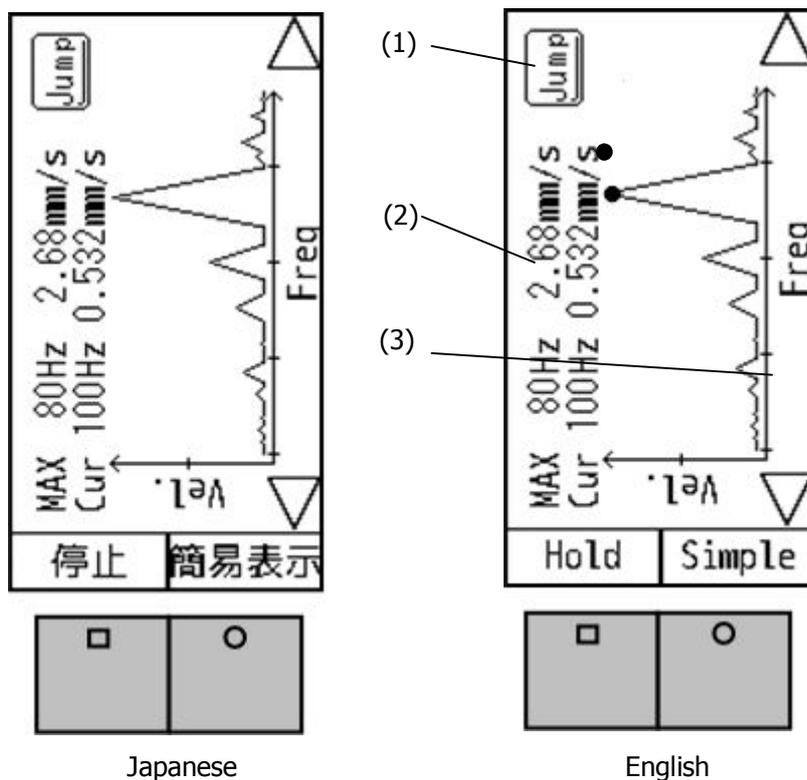

Fig 5-2 Details of the FFT
(2) Maximum frequency and its value.
(3) Details will appear as you press the function button R. (Fig 5-2)